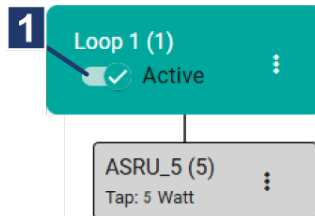

Fig. 7-7: Activate the remote tapping
3. Activate the remote tapping mode of the speaker circuit by clicking on the slide bar next to *Active*   (→ Fig. 7-7/1).